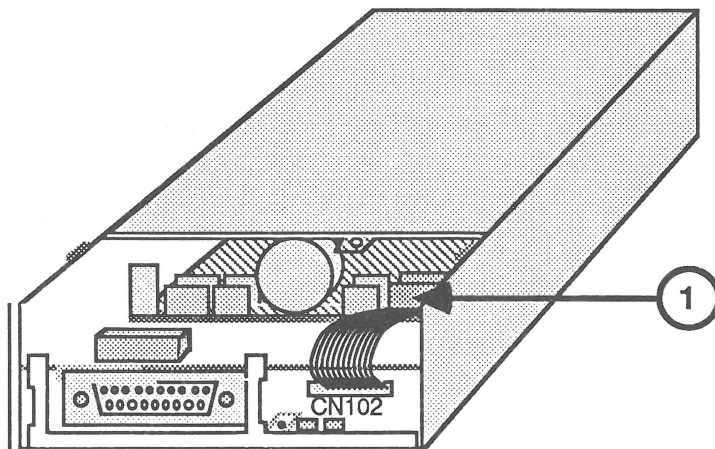

FIGURE 12
5. Connect the cable at CN102 on the daisy chain board to the drive mechanism (Figure 12, #1).